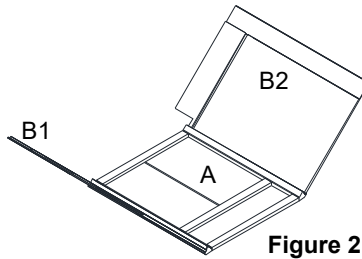
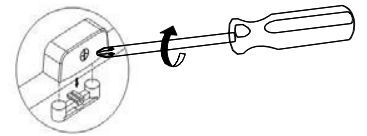

Figure 2
Figure 3
2. Installing the Side Panels: Insert left side panel (B1) and right side panel (B2) into the grooves of the face frame (A) and align the cam lock connectors. **(Figure 2)** Lock the cam locks with a screwdriver by turning the screw 180° clockwise. **(Figure 3)**